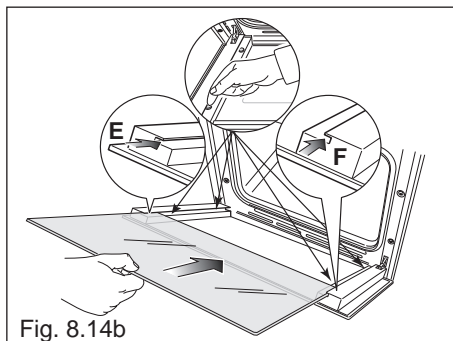
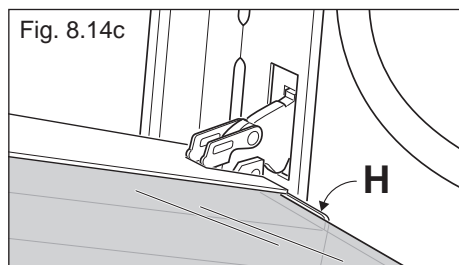

Fig. 8.14b
Fig. 8.14c
- IMPORTANT:** It is advisable, while refitting the glass, to keep pressed in position the four rubber pads "D", by a finger, to avoid breakage or slippage of the rubber pads themselves (fig. 8.14b).
- Insert the pane in the left "E" and right "F" slide guides (fig. 8.14b), and gently slide it to the retainers "H" (fig. 8.14c).